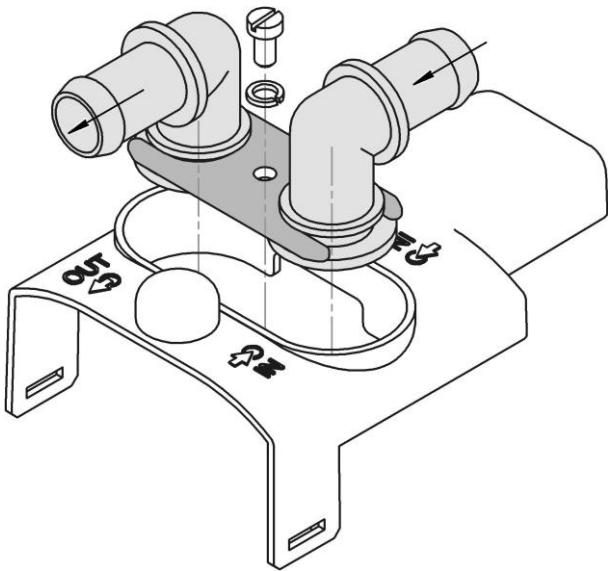

Fig. 2. Holddown dismantling
- remove the screw and the holddown fastening the elbows (Fig. 2),